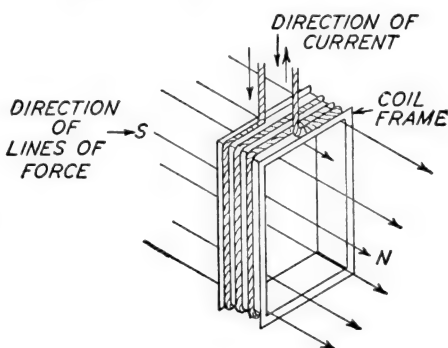

Fig. 15. Magnetic Field Produced by a Meter Coil
**Principle of Direct-Current Instruments.** If a coil like that shown in Fig. 15 carries a current, a magnetic field results with a north and a south pole at opposite ends of the coil. If the coil carrying current be placed in a magnetic field, the coil will tend to turn in such a direction that the resulting magnetic field due to both the main field and that of the coil will be a maximum. Also the north pole of the coil will be attracted toward the south pole of the magnet, and the south pole of the coil will be attracted to the north pole of the magnet.